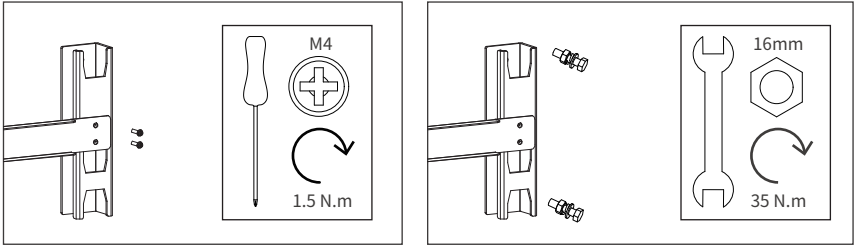

Fig.2.2 Mounting of inverter rack
- Confirm that the installation holes position is correctly marked, the support is horizontal, punch holes at the marked position and drive the M10 bolts into the installation hole (see Figure 2.2).